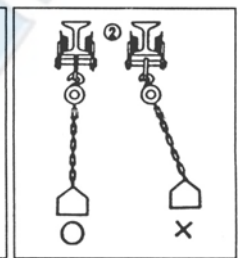

FIGURE 6
2. Load just under the trolley. Do not operate the trolley loaded slantwise. (FIGURE 6)